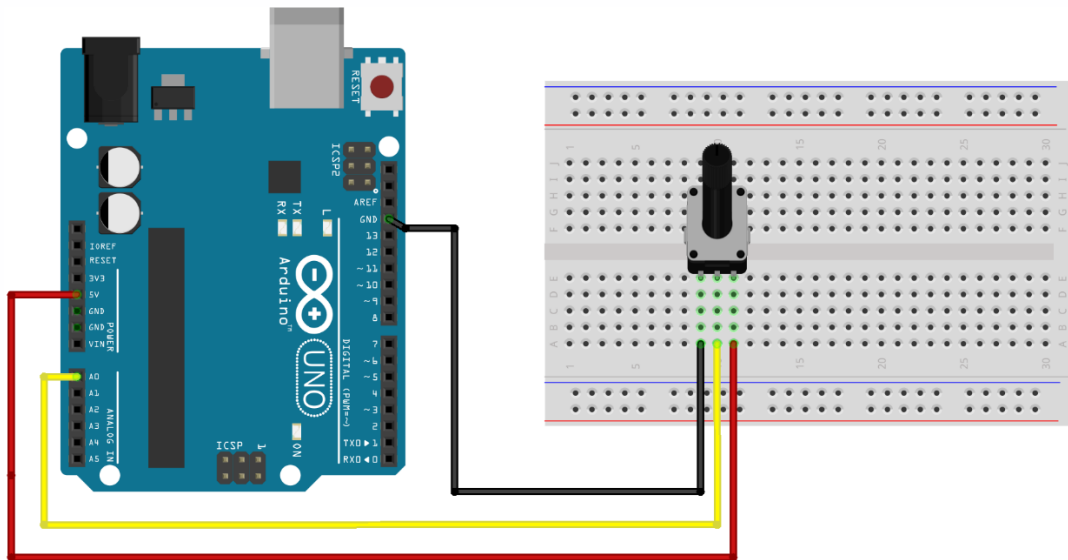

Figure 4.1 – Wiring diagram for Read Analog Voltage project
- a. Assemble the potentiometer connections as shown in the **Wiring Diagram (Figure 4.1)**.